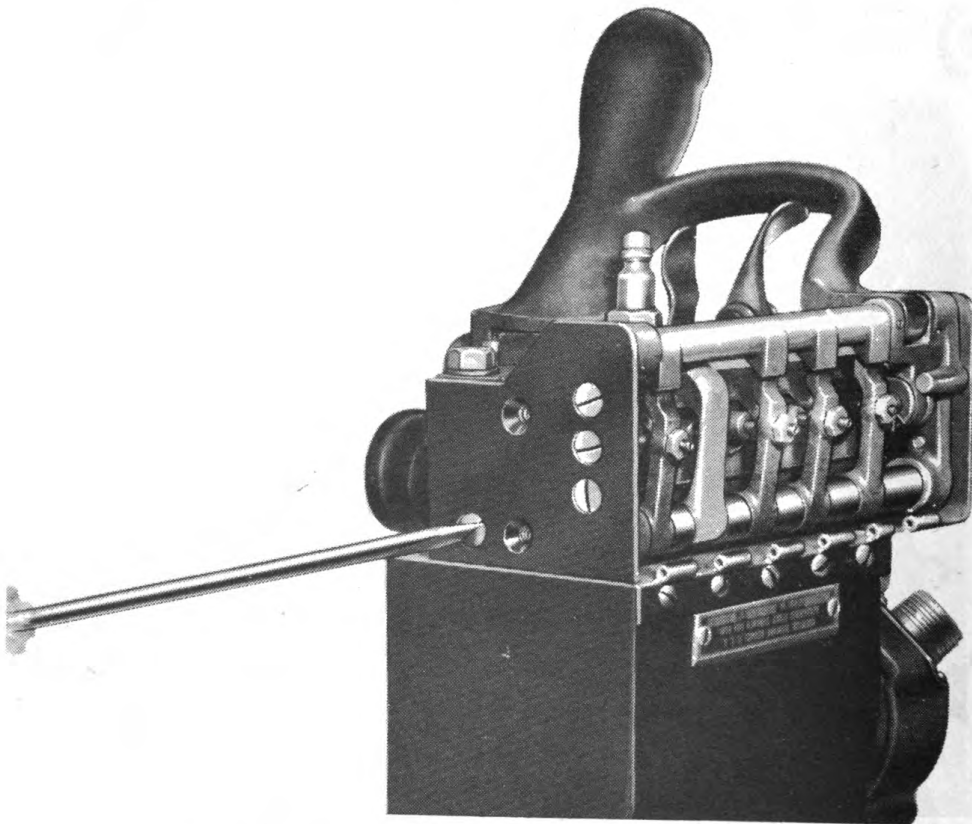

Fig. 102. Removing screws securing end plate.
(1) To remove control levers:
- Remove the three screws securing the plate (end plate) closest to the blow-out lever (fig. 102).